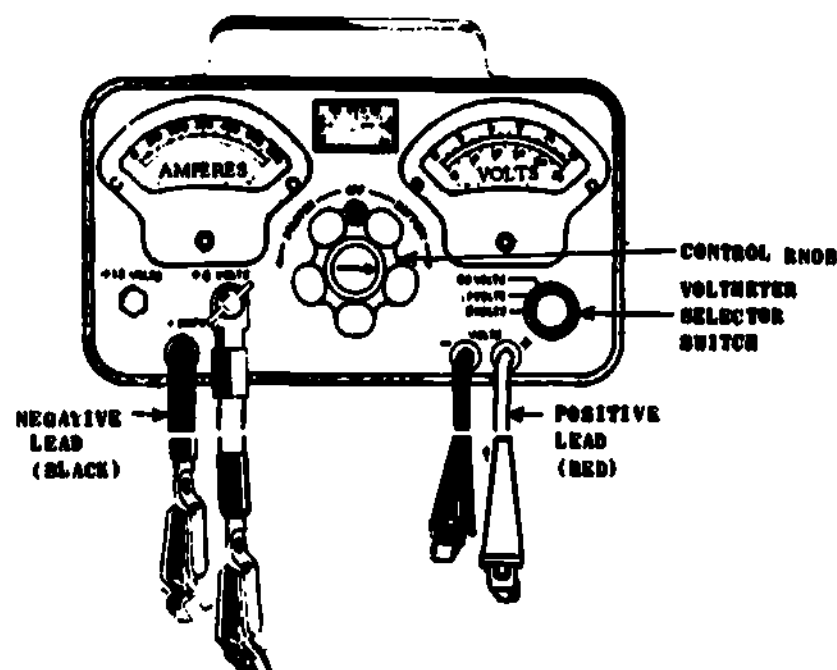

Fig 1-9. Heavy-duty battery starter tester.
- (2) Heavy-duty battery starter tester (fig 1-9). This set is used to test battery capacity, starter and battery cables, and starting motors. It has a scale for reading volts and a scale for reading amperes. Procedures for using the set are usually provided with the set. The procedures discussed here are for general use when there are no specific instructions with the set or in the TM.